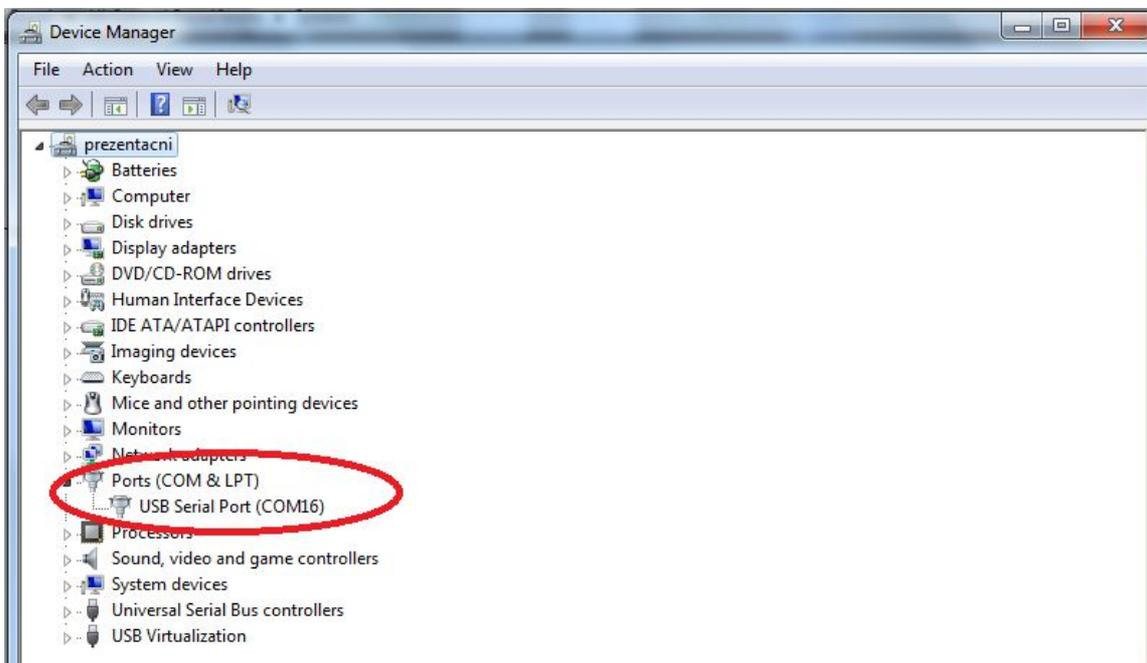

Figure 1: Device manager
2. After connection your operating system start identify your device and assign him COM port (more info in Figure 1). It is recommended to verify recognition of devices after completing connections.